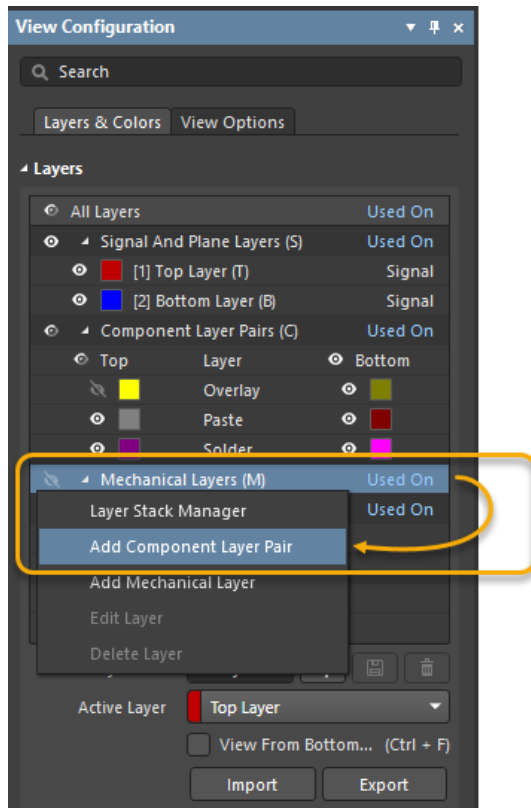

Figure 30. Add a Mechanical Layer Pair
45. **Right click** anywhere in the *View Configuration* panel and select **Add Component Layer Pair**, see Figure 30